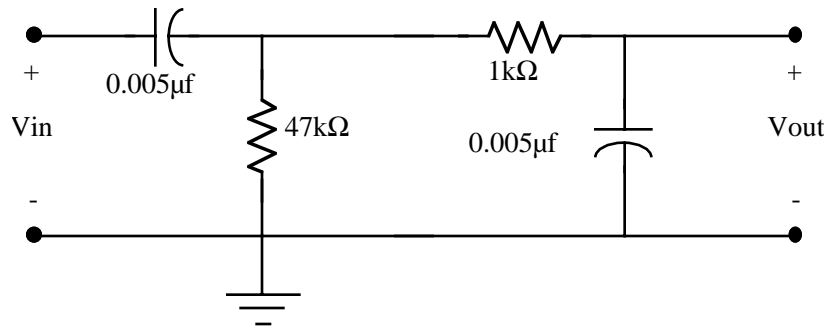

Figure 6. Band pass RC filter.
The final circuit that you will study is a band pass filter that is a combination of the high pass and low pass filters examined previously, as shown in Figure 6.
- Determine the complex transfer function,  $H(\omega)$ , for the circuit of Figure 6. Is it simply an addition of the transfer functions of the low pass and high pass filters studied previously? Why or why not? You may use EWB for this, or you may choose to directly calculate the transfer function.